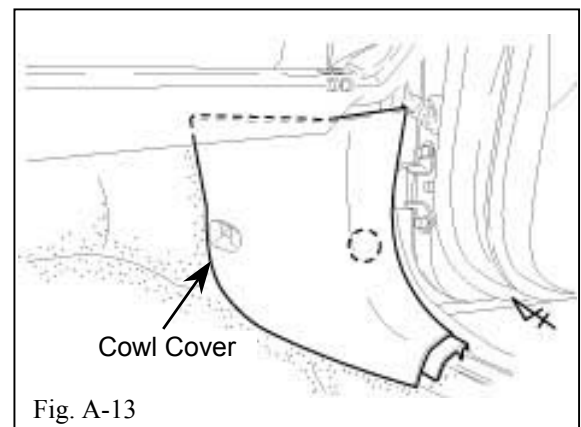

Fig. A-13
13. Remove the passenger side cowl cover. (Fig. A-13)